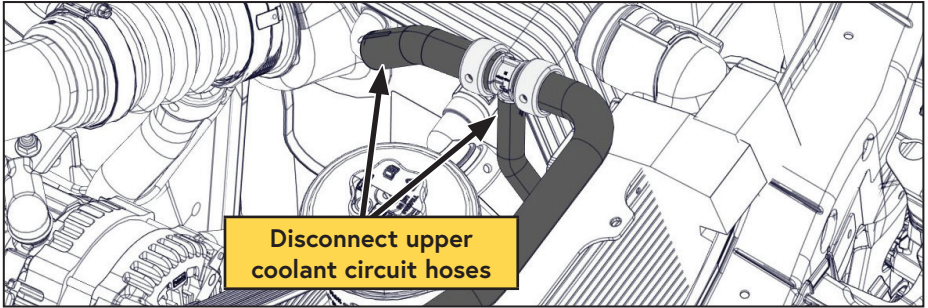

Figure 2 — Disconnect upper coolant circuit hoses
- ☐ Disconnect the secondary cooling system hose running between the secondary degas bottle and Charge Air Cooler (CAC) (Figure 2).